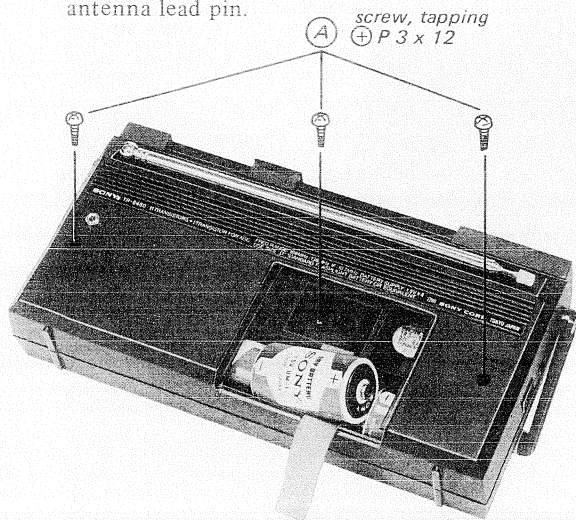

Fig. 2-1
2. Remove the three screws marked (A) in Fig. 2-1.